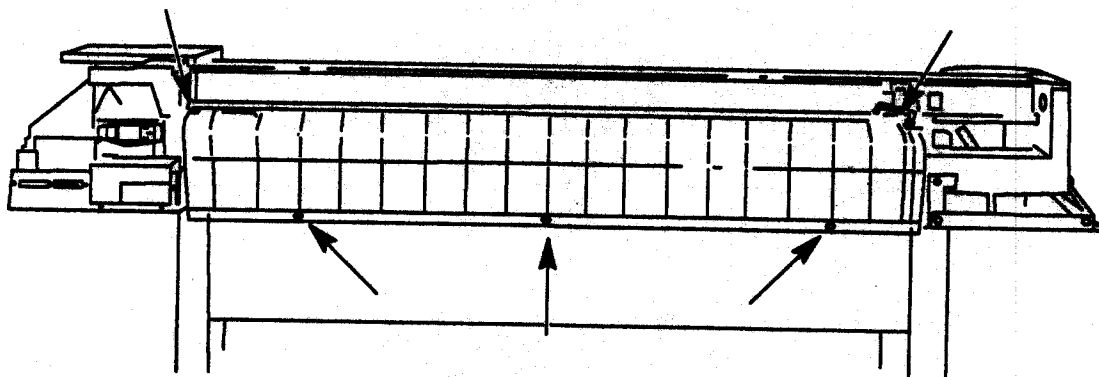

Figure 6-7. Rear Platen Removal
- c. Remove the two self-tapping screws from the top of the rear platen. See Figure 6-7.
- d. Remove the three machine screws from the bottom edge of the rear platen. See Figure 6-7.